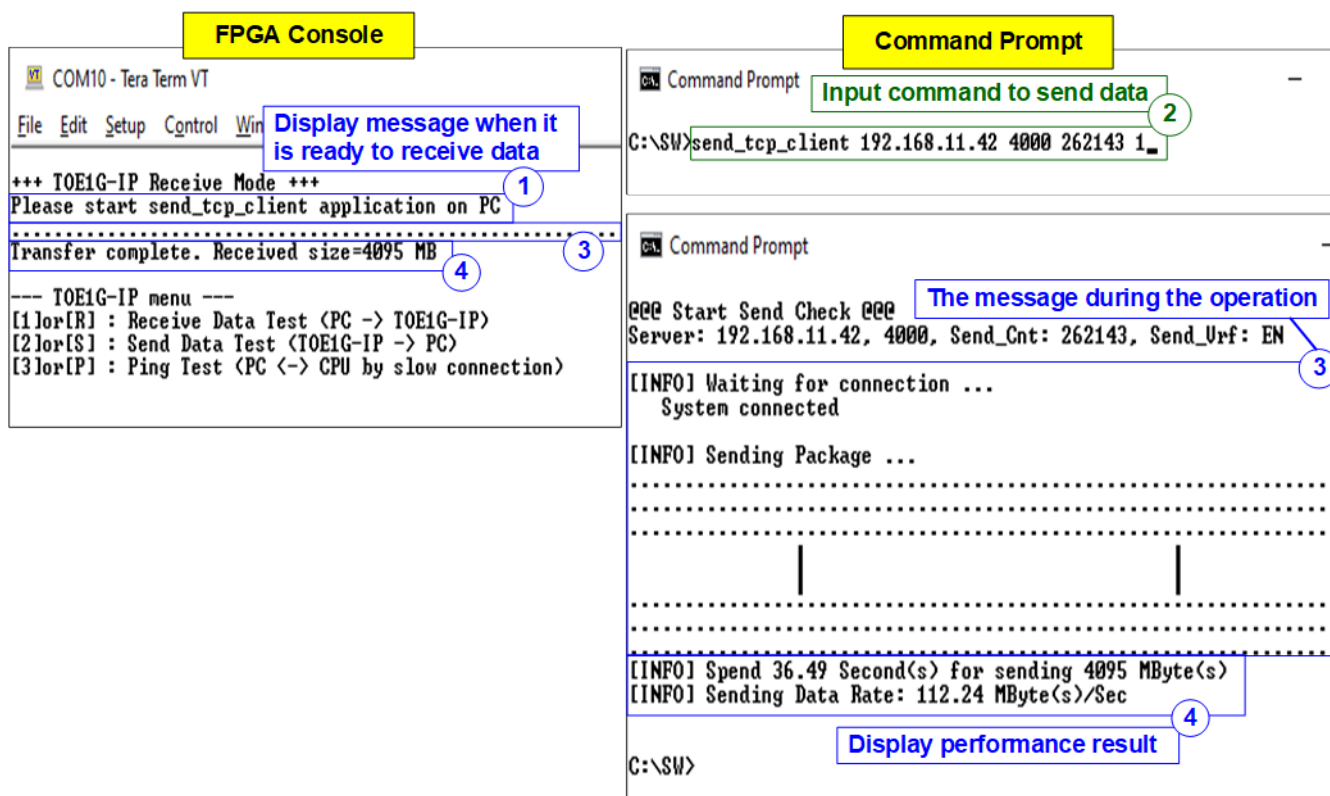
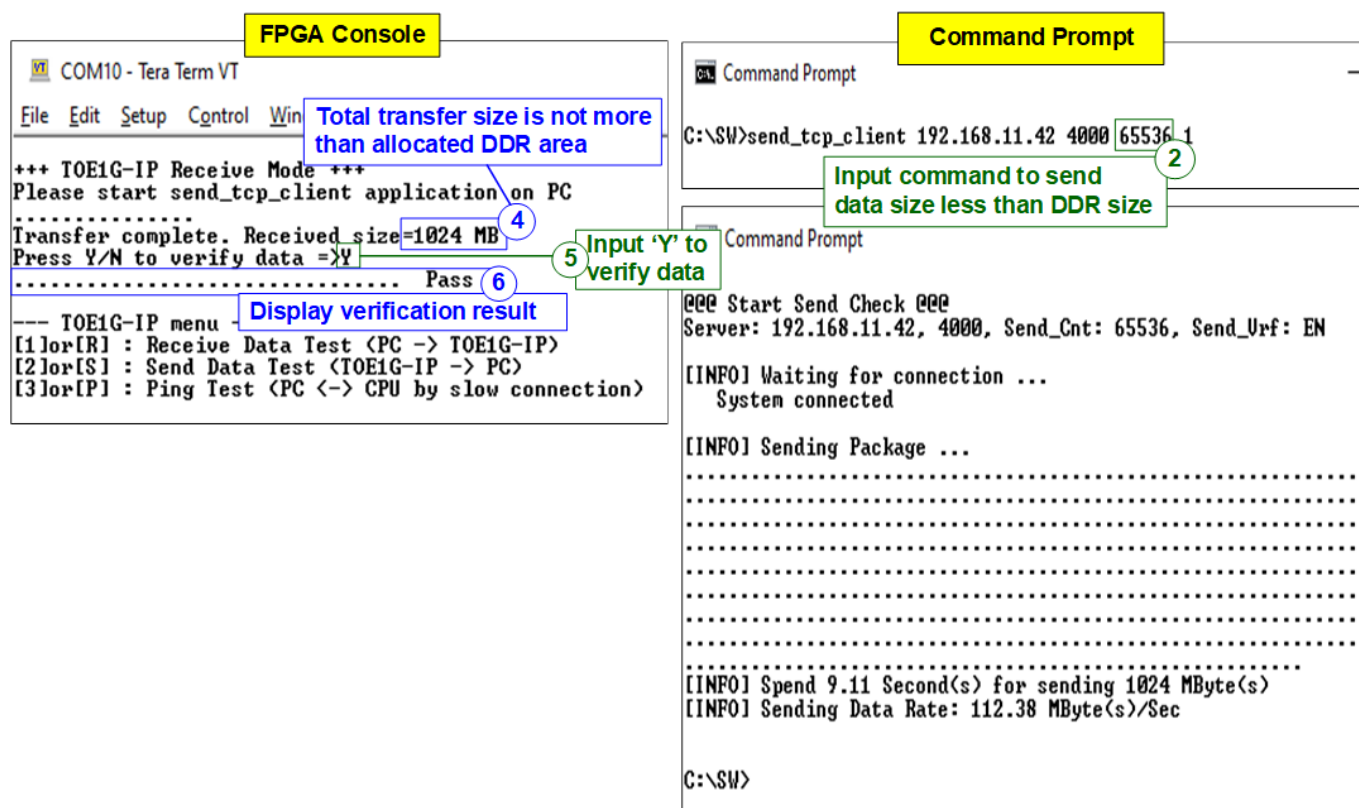

Figure 4-1 Receive data test when transfer size exceeds the allocated DDR area
Figure 4-2 Receive data test when transfer size does not exceed the allocated DDR area
- 4) Once the PC completes sending the data and closes the connection, the FPGA console will show "Transfer complete" along with the total received size. The Command prompt will display the total transfer size and performance. If the total transfer size exceeds the allocated DDR area, the test operation is completed at this step (as shown in Figure 4-1). Otherwise, proceed to the next step (as shown in Figure 4-2).